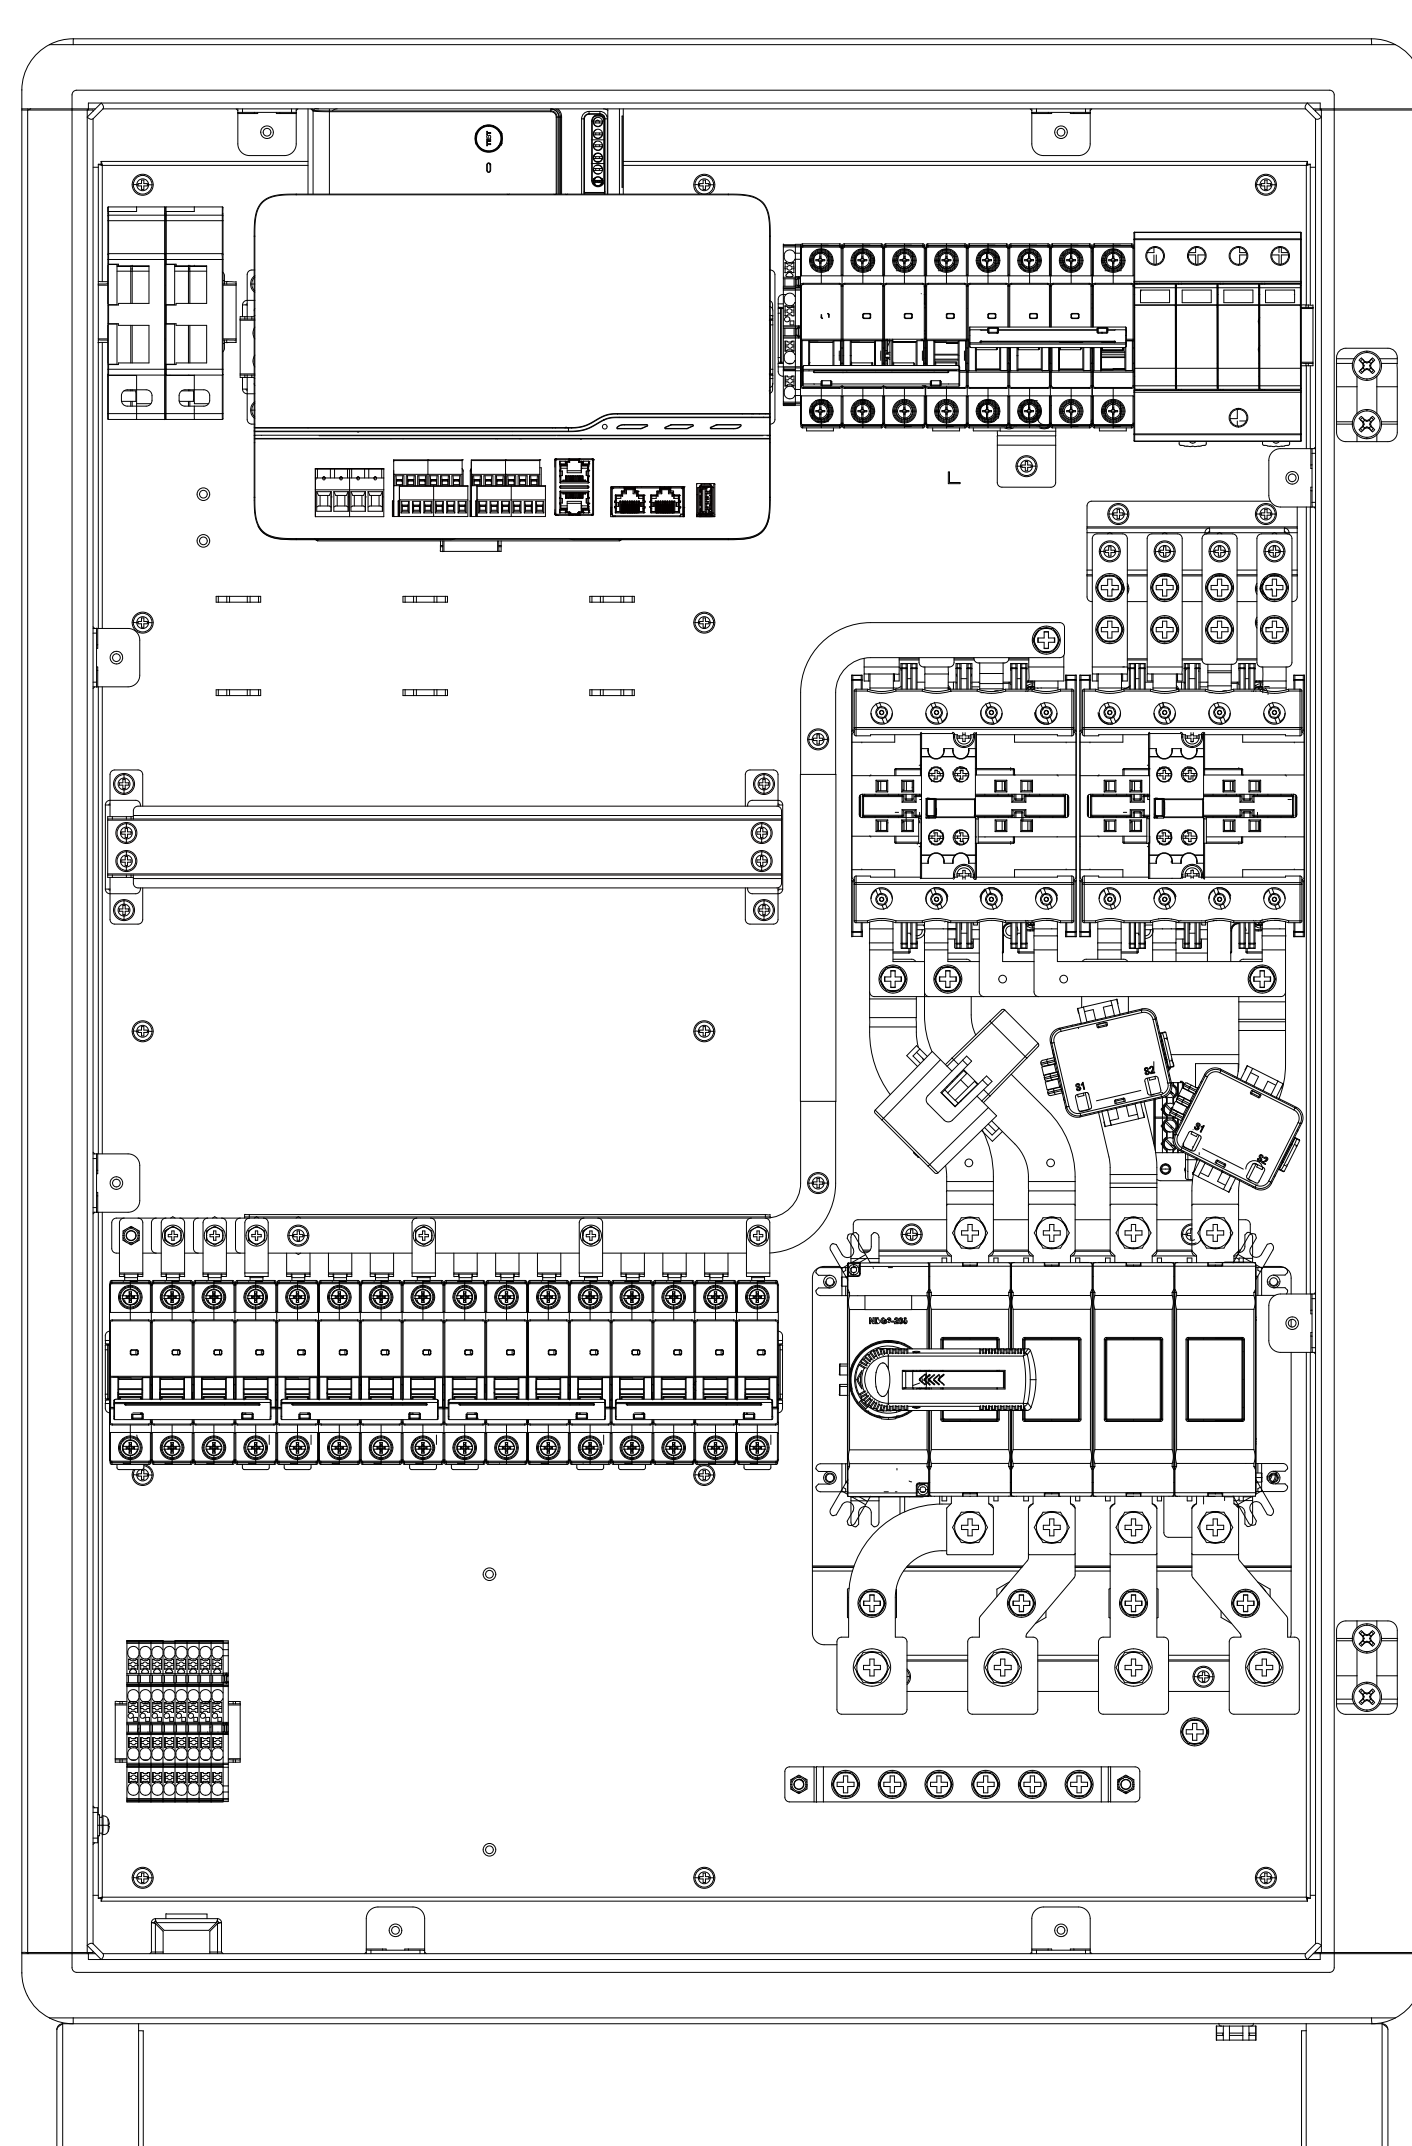
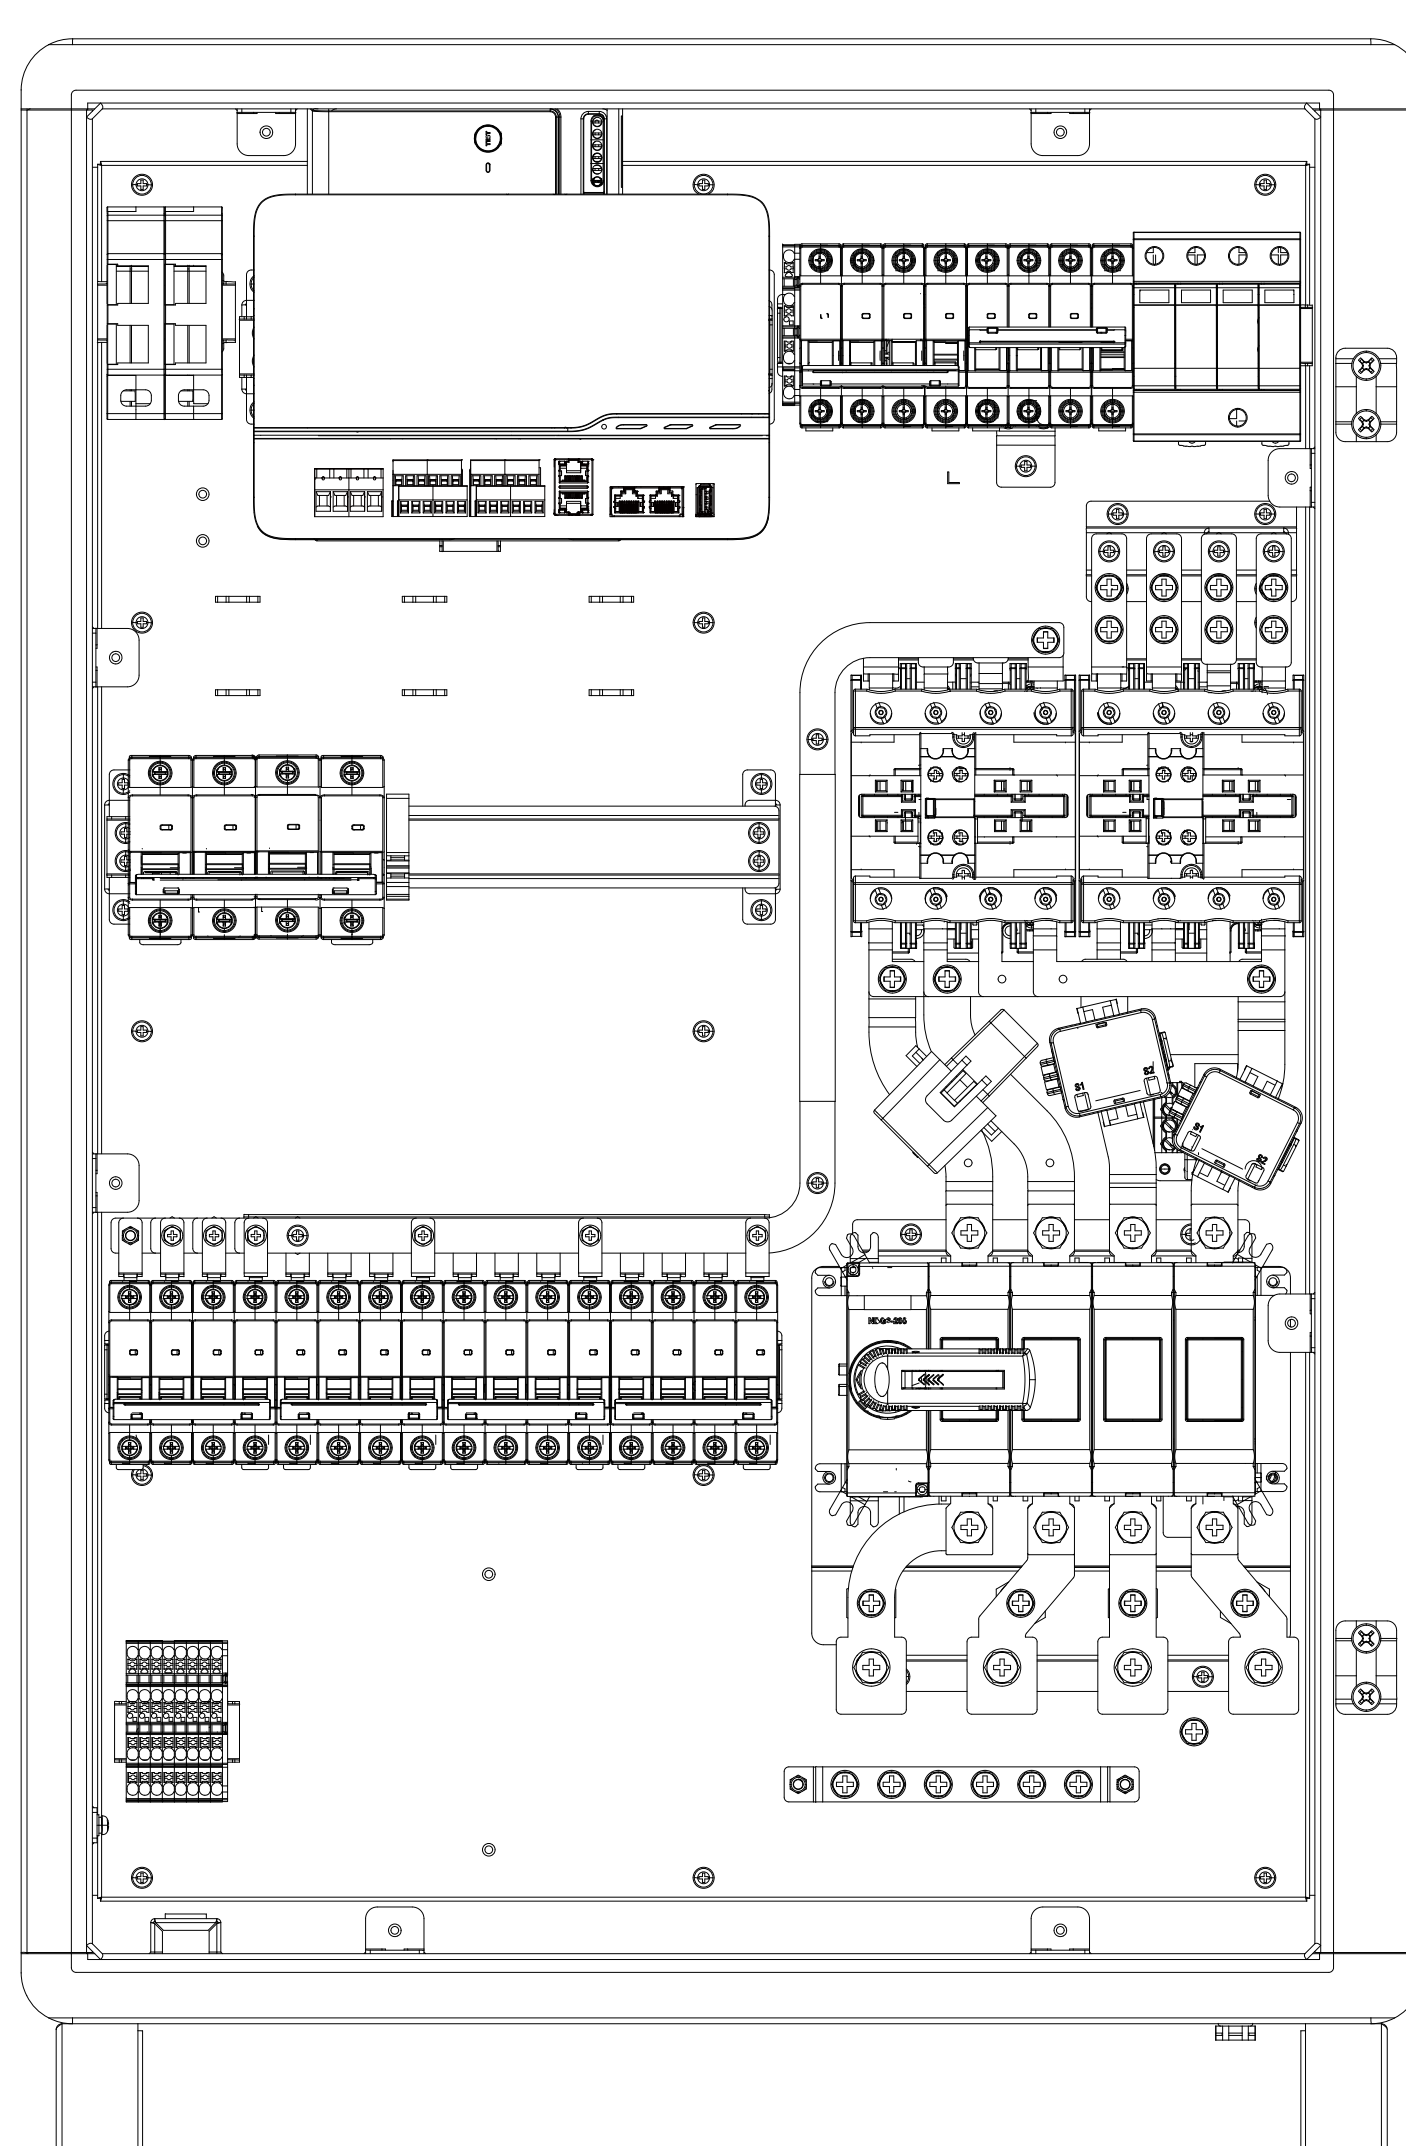

Fig.1.
Fig.2.
- Remove the original battery breakers, terminal blocks, and connected cables as shown in Fig.1. Install a 125 A breaker in the position shown in Fig.2. The max installable breaker number could be up to two.